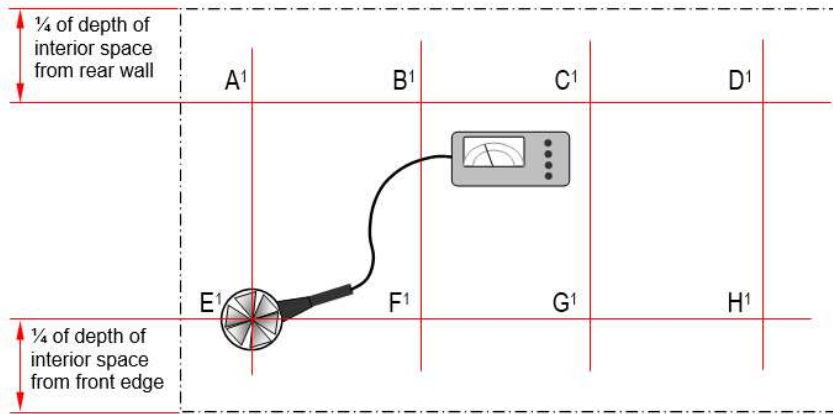

Figure 5
2. Take a ‘spot’ measurement averaged over a 1-minute interval moving the anemometer to each of the eight grid points as shown in the matrix [Figure 5] determining the lowest and highest mean velocity levels.